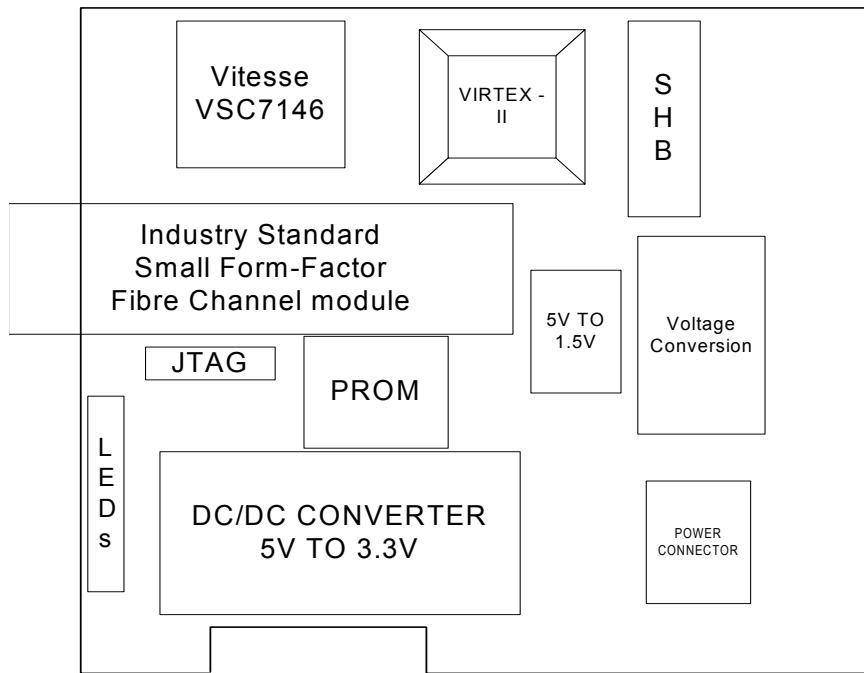

Figure 2 - Board Layout
**Figure 2** below shows the layout of the board. Throughout this document, wherever “left, right, top or bottom” are referred to in reference to the card, it is assumed that the card is in the orientation shown in this diagram.
A bank of 8 LEDs is situated on the left edge of the board (as shown on the left of **Figure 2**), which indicate that the board has power, and the status of the fibre link (blue LED). Table 1 below shows the arrangement of the LEDs, their meaning, and the FPGA pin with which they are driven. Most of them are meant to help the users to debug their applications.